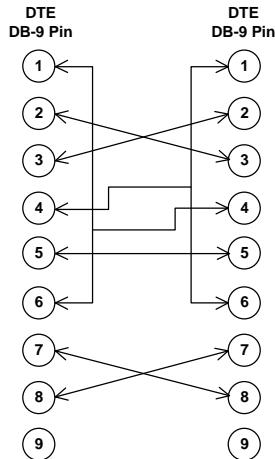

Figure 6: Null Modem Configuration (Option 1)
10. If a COM1 expansion package is installed in the D6600 Receiver (see next section for installation instructions), then connect a second D6680 Network Adapter (*not included*) to COM1. (*A D6672 COM1 Expansion Kit must be separately ordered and the D6672 must be installed. See the D6672 Installation Sheet for details.*) COM1 is the 9-pin connector to the left of the CPU Terminator card looking at the rear of the unit. Use a straight modem cable if connecting to Channel 1 (the 25 pin connector) of the D6680 Network Adapter. Use a NULL modem cable if connecting to Channel 2 (*the 9-pin connector*) of the D6680 Network Adapter. (*See Figure 6 or Figure 7 for pin outs*).